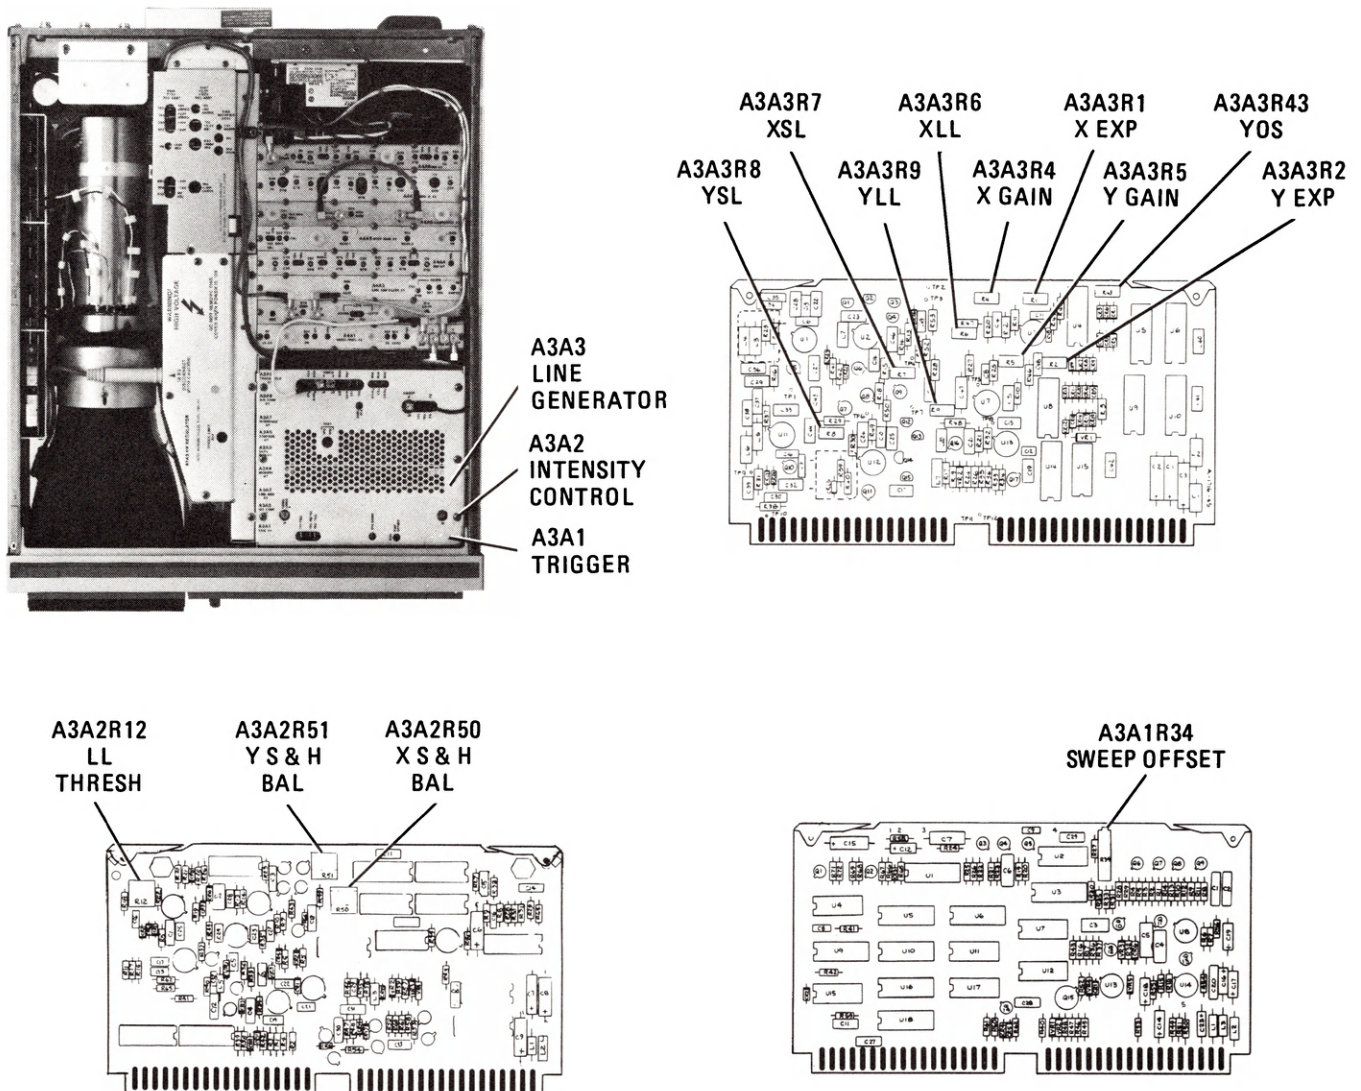

Figure 5-76. Location of Digital Storage Display Adjustments
4. Adjust A3A3R4 X GAIN and A3A3R5 Y GAIN to place graticule information completely on CRT. Refer to Figure 5-76 for location of adjustment.
5. Adjust A3A2R12 LL THRESHOLD fully clockwise. Refer to Figure 5-76 for location of adjustment.
6. Adjust A3A3R6 XLL so that horizontal graticule lines just meet the vertical graticule lines at the left and right of the graticule. Refer to Figure 5-76 for location of adjustment.
7. Adjust A3A3R9 XLL so that horizontal graticule lines just meet the vertical graticule lines at the left and right of the graticule. Refer to Figure 5-76 for location of adjustment.
9. Adjust A3A2R12 LL THRESHOLD fully counterclockwise. Refer to Figure 5-76 for location of adjustment.
10. Adjust A3A3R7 XSL so that horizontal graticule lines just meet the vertical graticule lines at the left and right side of the graticule. Refer to Figure 5-76 for location of adjustment.
11. Adjust A3A3R8 YSL so that the vertical graticule lines just meet the horizontal graticule lines at the top and bottom of the graticule. Refer to Figure 5-76 for location of adjustment.
19. Adjust A3A2R50 X S&H BAL for minimum dc offset level between V_A and V_B as illustrated in Figure 5-77. Refer to Figure 5-76 for location of adjustment.
21. Adjust A3A2R51 Y S&H BAL for minimum dc offset level between V_A and V_B as illustrated in Figure 5-77. Refer to Figure 5-76 for location of adjustment.
29. Adjust A3A1R34 SWEEP OFFSET so that signal trace begins at left edge graticule line. Refer to Figure 5-76 for location of adjustment.
30. Adjust A3A3R4 X GAIN for twenty cycles on the graticule. This may be made easier by adjusting A3A1 SWEEP OFFSET so that first peak is centered on left edge graticule line then adjusting A3A3 X GAIN for two cycles per division with the twentieth cycle being centered on the right edge graticule line. A3A1 SWEEP OFFSET must then be readjusted so that trace begins at left edge graticule line. Refer to Figure 5-76 for location of adjustment.
36. Adjust A3A3R43 YOS to align the bottom graticule line with the fast sweep signal line. Refer to Figure 5-76 for location of adjustment.
39. Adjust A3A3R5 Y GAIN to align the top graticule line with the fast sweep signal line. Refer to Figure 5-76 for location of adjustment.
48. Adjust A3A3R1 X EXP to center the letter F in REF (CRT annotation in upper left corner of display) over the left edge graticule line. Refer to Figure 5-76 for location of adjustment.
49. Adjust A3A3R2 Y EXP to align the remainder of the CRT annotation so that the upper annotation (Marker data) is above the top graticule line and the lower annotation (Start and Stop data) is below the bottom graticule line. Adjust for equal spacing above and below graticule. Refer to Figure 5-76 for location of adjustment.